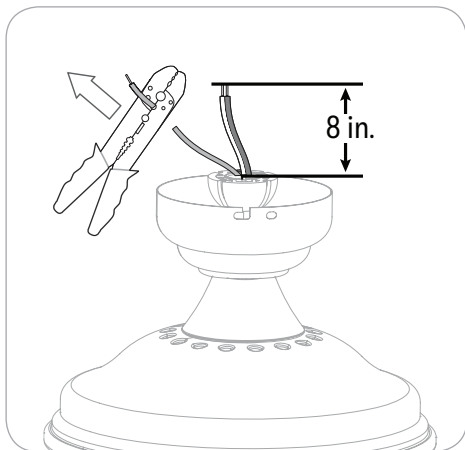

Figure 3.4
4. Depending on the length of downrod you use, you may want to cut the fan wires to simplify wiring. After pulling the wires all the way through the downrod, measure 8 inches of wire. Cut off the excess wire using wire cutters (not included). Then strip 1/2 inch of insulation from the end of each wire strand (Figure 3.4).